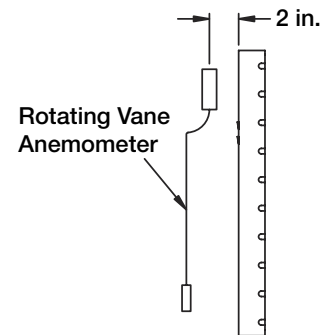

Fig. 40
- Measure the velocity of each location. A digital 2.75 in. (70 mm) rotating vane anemometer or its equivalent is suggested. The center of the anemometer should be held 2 in. (50 mm) from the face of the filters as in Fig. 40. It is helpful to make brackets to keep the anemometer at the 2 in. (50 mm) distance and parallel to the filter. Both squareness and distance are important for accuracy.